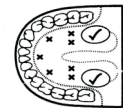

Figure 2
- Oral Use:** Place thermometer under tongue as indicated by "✓" position shown in Figure 2. Close your mouth and breathe evenly through the nose to prevent the measurement from being influenced by inhaled/exhaled air. Normal temperature between 35.7 °C and 37.3 °C (96.3 °F and 99.1 °F)